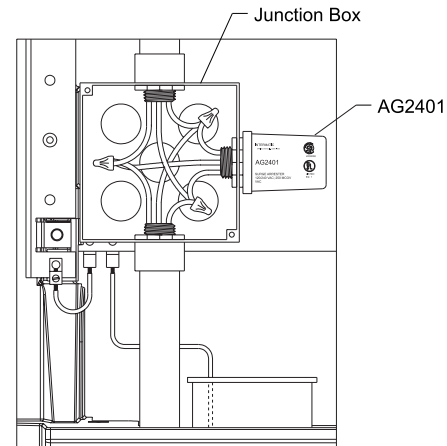

Figure 6: 120 / 220/ 240 VAC power wiring detail
1. In the junction box, connect the AC power wires (black, white, and green) as shown in Figure 6.